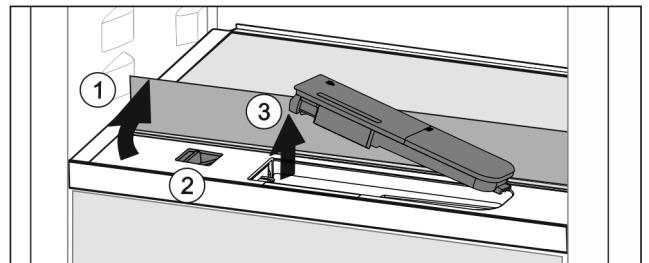

Fig. 119
- ▶ Lift the glass panel and fold towards the rear until it clicks into place Fig. 119 (1).
- ▶ Slide the slider Fig. 119 (2) to the left.
- ▶ Remove the water tank Fig. 119 (3).